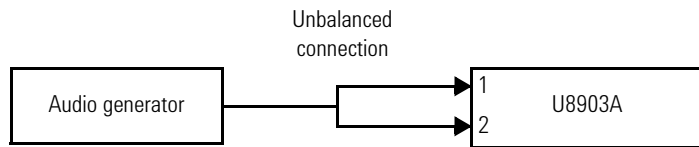

Figure 3-4 Audio generator to U8903A connection for phase accuracy verification
- 1** Connect the audio generator to the U8903A input channel 1 and 2 via the Unbalanced connection as shown in Figure 3-4. Preset both the U8903A and audio generator.